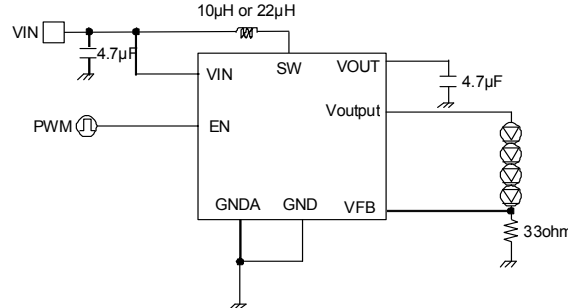

Fig.25 The brightness adjustment example of EN terminal by PWM (fPWM = 100 ~ 300Hz)
1. PWM brightness adjustment is done by giving PWM signal to EN as shown in Fig.25.